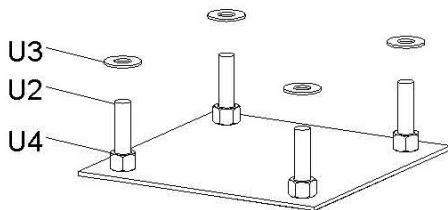

FIGURE 1A
A. Slide a Thick Washer (U3) over each of the J-Bolts (U2) as shown in FIGURE 1A.